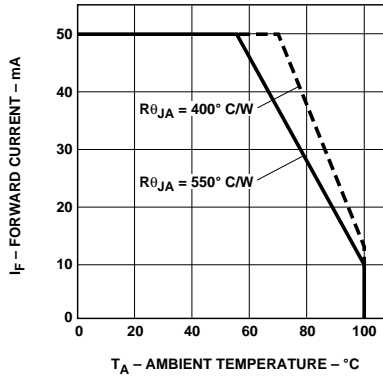

Figure 12. Maximum Forward Current vs. Ambient Temperature. Derating Based on T_J Max = 110°C.
1. Derate linearly as shown in Figure 12.